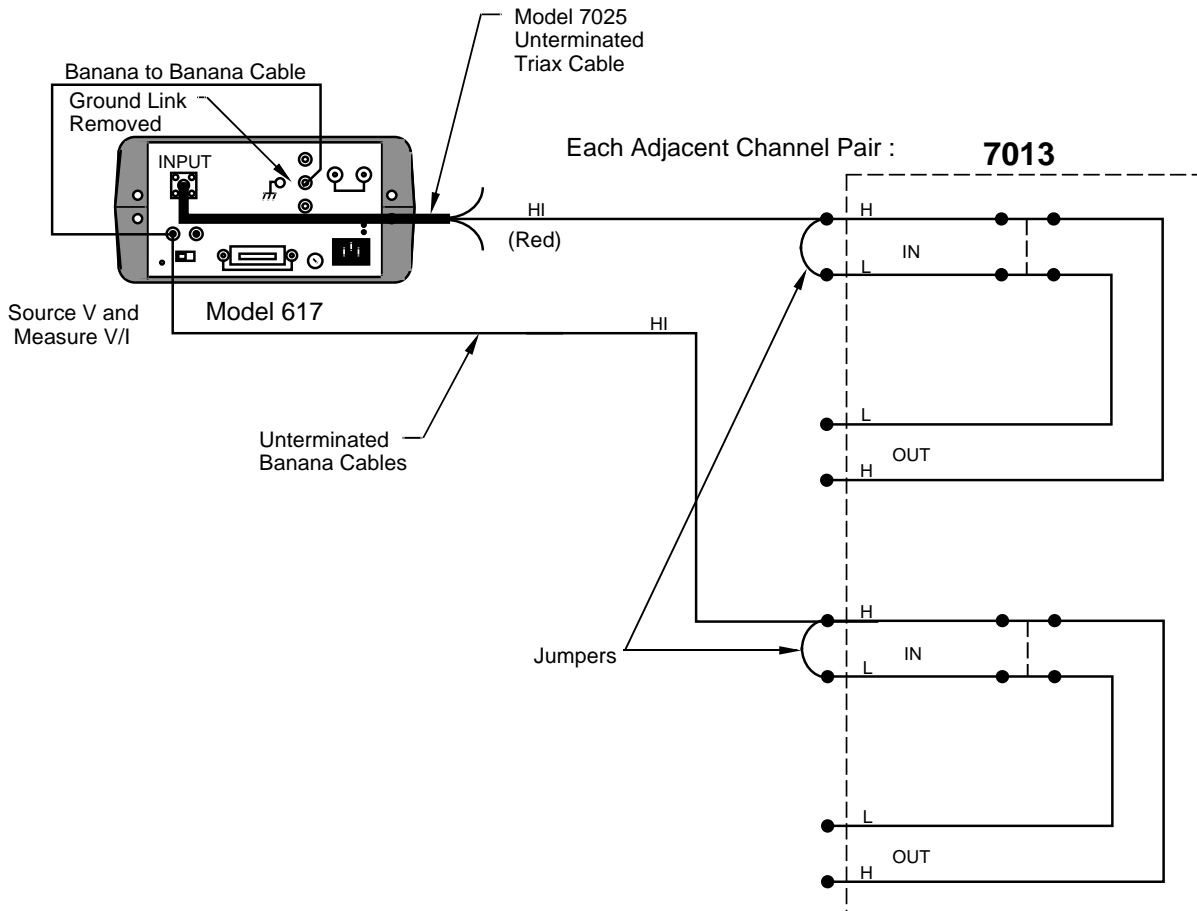

Figure 5-4
Refer to Figure 5-4 and perform the following steps to test channel to channel isolation:
2. Jumper input (IN) high (H) to input (IN) low (L) for Channels 1 and 2 as shown in Figure 5-4.